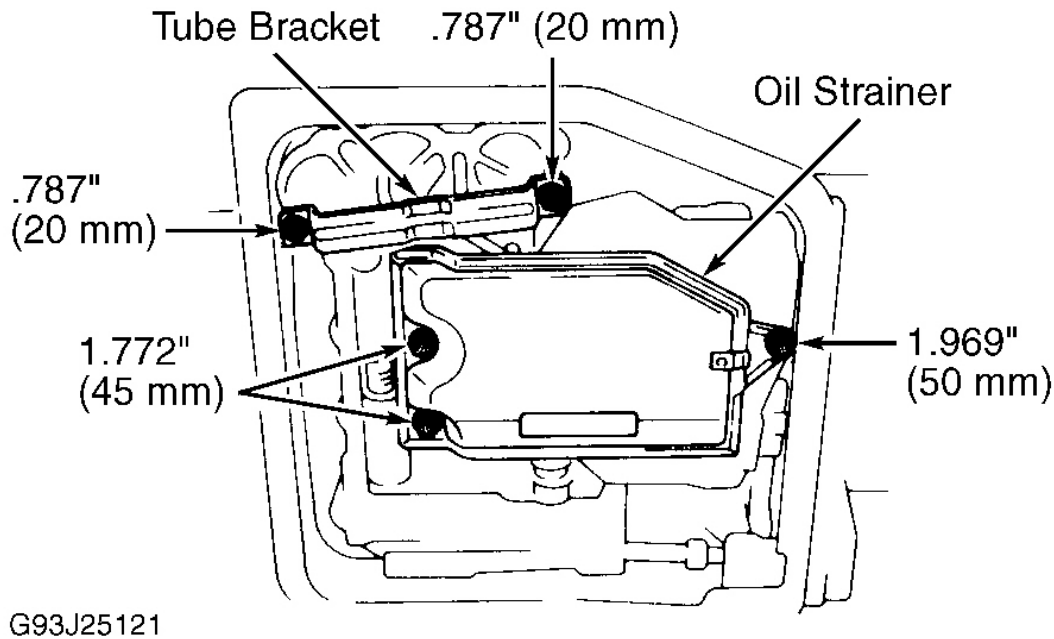

Fig. 6: Tube Bracket I.D. & Oil Strainer Bolt Length & Location
4. Install oil strainer. Tighten bolts to 89 INCH lbs. (10 N.m). See **Fig. 6**. Install magnets in oil pan. Ensure magnet does not interfere with oil tubes. Install oil pan. Tighten bolts to 43 INCH lbs. (4.9 N.m). Install drain plug with new washer gasket. Tighten plug to 36 ft. lbs. (49 N.m). Fill transmission with oil. See **LUBRICATION & ADJUSTMENTS**.